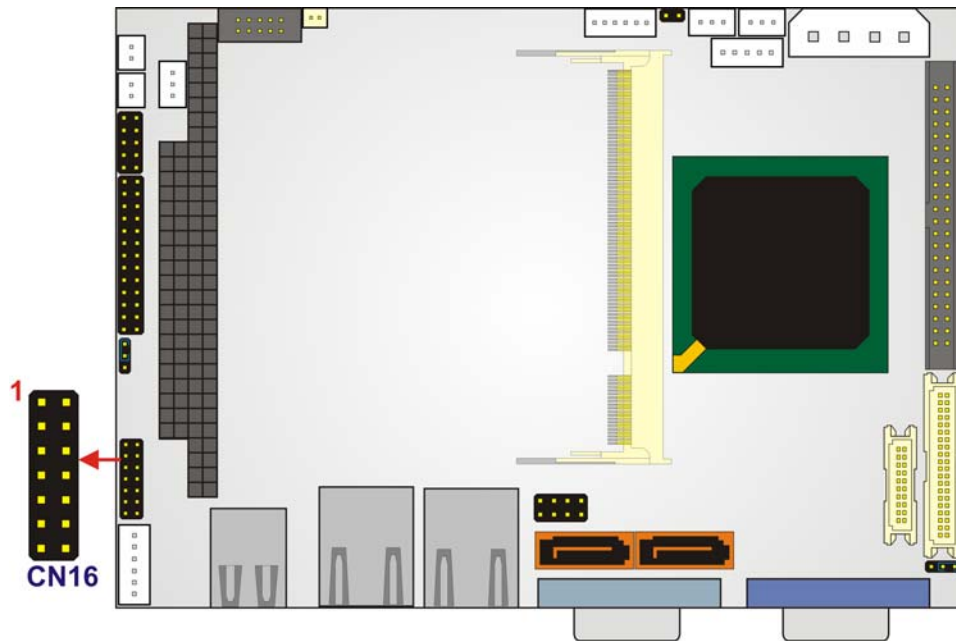

Figure 3-20: RS-232 Serial Port Connector Locations
**CN Location:** See **Figure 3-20**